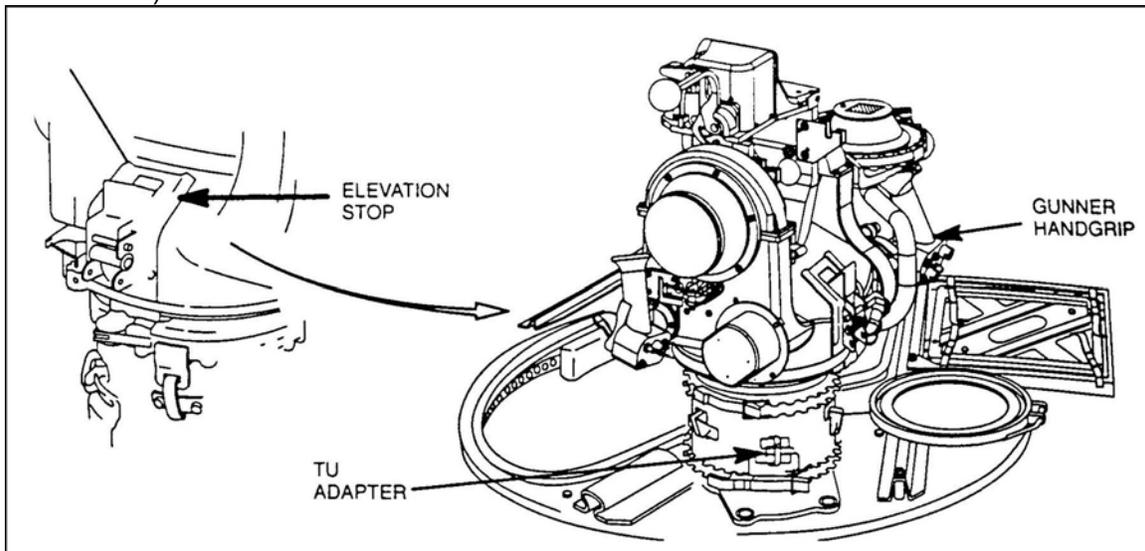

Figure 6. TU and TU adapter installation on pedestal mount.
- (1) Close lower coupling clamp handle and secure with locking spring to secure the TU adapter on the pedestal mount.
- (2) Make sure both elevation and depression stops are in the up position and pinned (Figure 6).